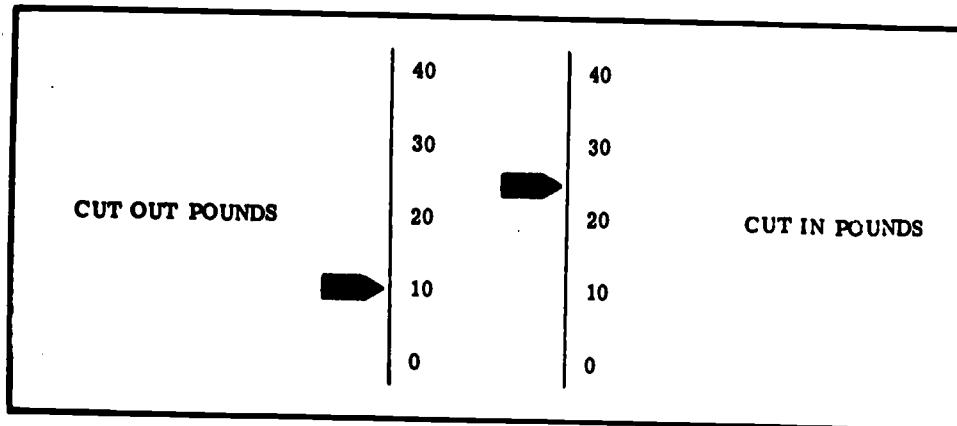
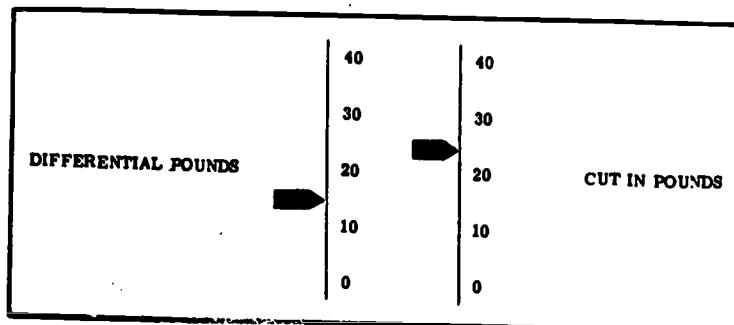

Fig 4-31. Cut-in and cut-out.
Fig 4-32. Cut-in and differential.
The next problem is to determine the adjustments that are to be made on a control in the field. There are two common adjustments of low-pressure controls: (1) adjustments of cut-in and cut-out (fig 4-31) and (2) the adjustment of cut-in and differential (fig 4-32). The difference in adjustment of these two types of controls is very minor, but it is crucial to the unit's operation. If you were to set the cut-out pressure when you should be setting the differential pressure, you would also change the temperature range of the unit. A pressure control on a walk-in refrigerator using R-12 refrigerant should cut-in at 25 psi and cut out at 10 psi. The differential is 15 psi. The adjusted control should appear as illustrated in either figure 4-31 or 4-32, depending on whether that particular control operates on cut-out pressure or on differential pressure. It is extremely important to realize that by setting the cut-in at 25 psi and the differential at 15 psi, the cut-out will automatically be 10 psi.